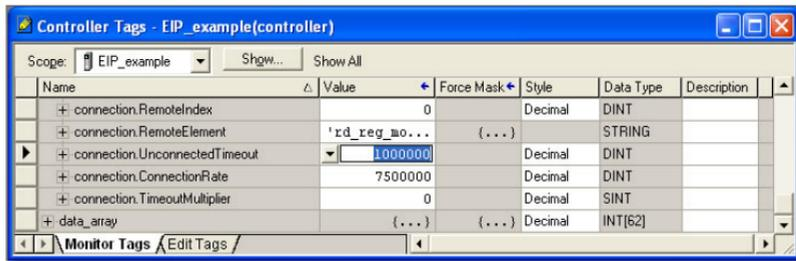

Figure 93: Reduce the UnconnectedTimeout Value
- Select the "Monitor Tags" tab. Expand the "connection" tag by clicking on the "+" sign next to the tag name. Scroll down to the connection.UnconnectedTimeout field and change its value from the default 30000000 (30s in 1uS increments) to 1000000 (1s). This value determines how long to wait before timing out and retransmitting a connection request if a connection failure occurs. Refer to Figure 93.